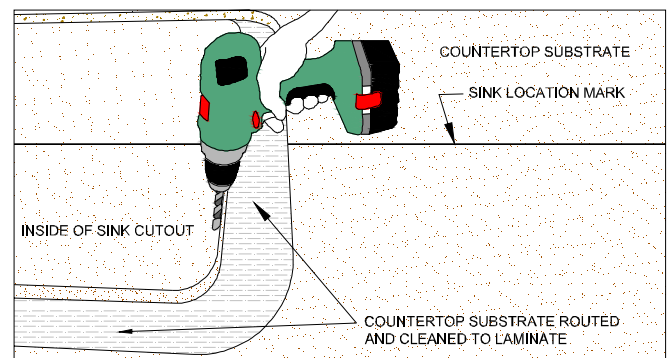

Figure 6C
- Drill a $\frac{3}{8}$ " or larger pilot hole through the substrate at the inside of the sink cutout to insert a laminate trim bit to cutout center piece. (FIG. 6C)